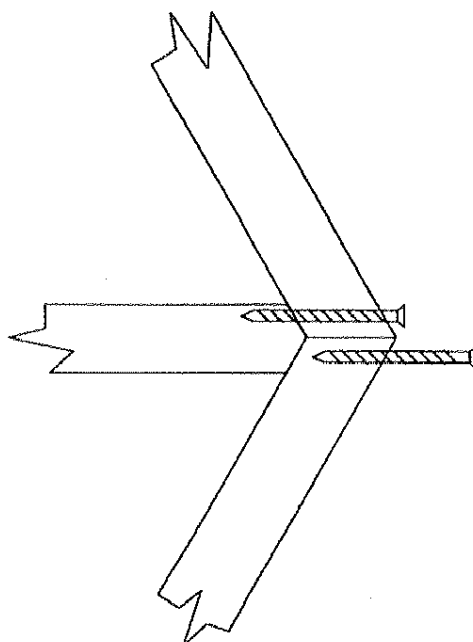

FIGURE B5
- Using two 3" screws at each joint, fasten the 8 long floor joists to the rim joists [Figure B5].